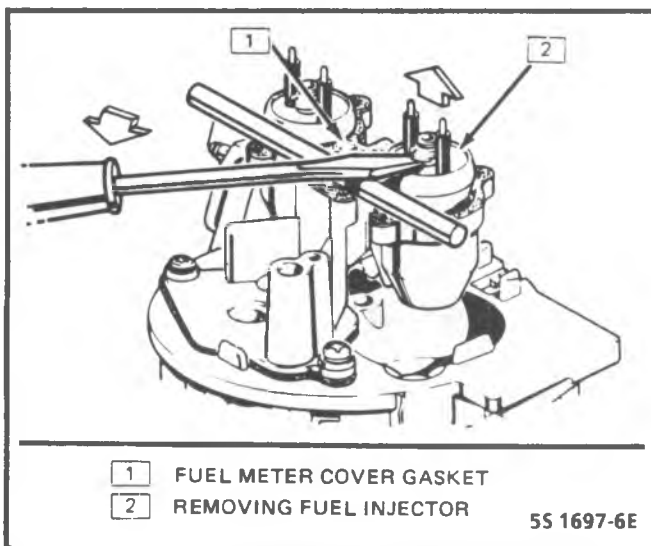

Figure 4-25 - Removing TBI 220 Fuel Injector
3. With fuel meter cover gasket in place to prevent damage to casting, use a screwdriver and fulcrum to carefully lift out each injector (Figure 4-25).